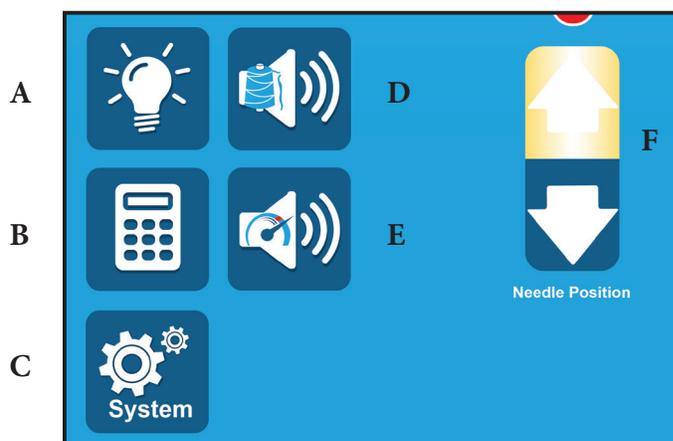

Figure 5
- Lights (*Figure 5, A*)
- Calculator (*Figure 5, B*)
- Settings (*Figure 5, C*)
- Thread Break Alarm (*Figure 5, D*)
- Overspeed Alarm (*Figure 5, E*)
- Needle Up/Needle Down (*Figure 5, F*)